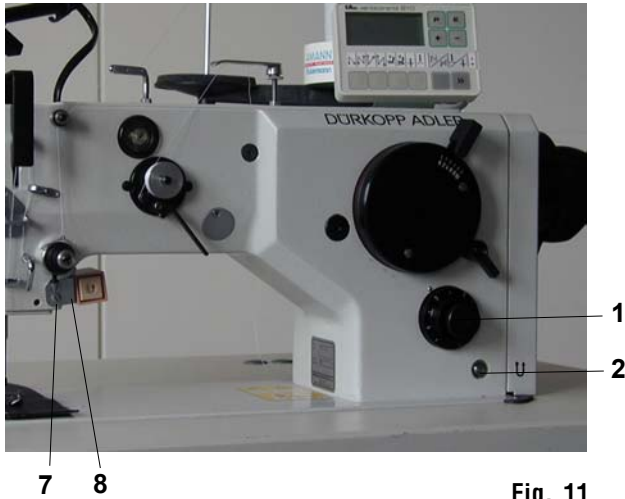

Fig. 11
8. Mounting of the equipment for backward stitching (Fig. 11, 12)